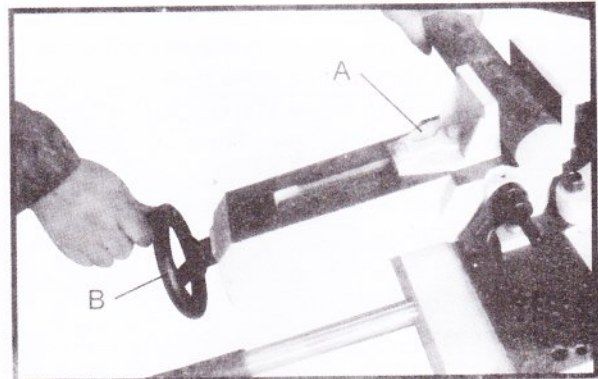

Fig. 13
The work piece (A) is placed between the vise jaws with the required amount to be cut-off extending out past the blade, as shown in Fig. 13. To tighten the work piece in the vise, turn hand-wheel (B).